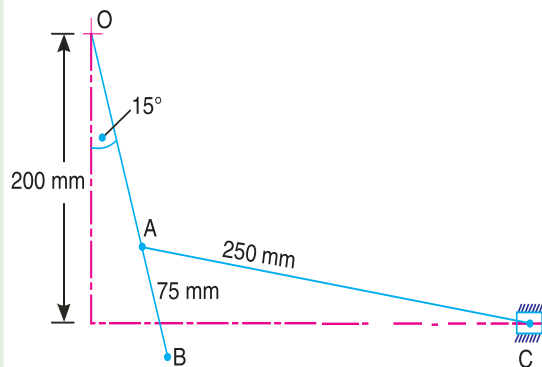

Fig. 7.35
5. The oscillating link OAB of a mechanism, as shown in Fig. 7.35, is pivoted at O and is moving at 90 r.p.m. anticlockwise. If $OA = 150$ mm ; $AB = 75$ mm, and $AC = 250$ mm, calculate